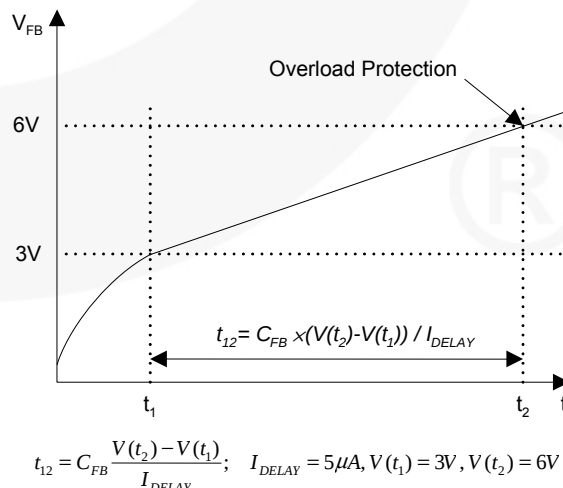

Figure 15. Overload Protection (OLP)
4.1 Overload Protection (OLP): Overload is defined as the load current exceeding a pre-set level due to an unexpected event. In this situation, the protection circuit should be activated to protect the SMPS. However, even when the SMPS is operating normally, the Overload Protection (OLP) circuit can be activated during the load transition. To avoid this undesired operation, the OLP circuit is designed to be activated after a specified time to determine whether it is a transient situation or a true overload situation. In conjunction with the I_{pk} current limit pin (if used), the Current Mode feedback path would limit the current in the SenseFET when the maximum PWM duty cycle is attained. If the output consumes more than this maximum power, the output voltage (V_O) decreases below its nominal voltage. This reduces the current through the optocoupler LED, which also reduces the feedback voltage (V_{FB}). If V_{FB} exceeds 3V, the feedback input diode is blocked and the 5μA current source (I_{DELAY}) starts to slowly charge C_{fb} up to V_{CC}. In this condition, V_{FB} increases until it reaches 6V, when the switching operation is terminated (as shown in Figure 15). The shutdown delay is the time required to charge C_{fb} from 3V to 6V with 5μA current source.